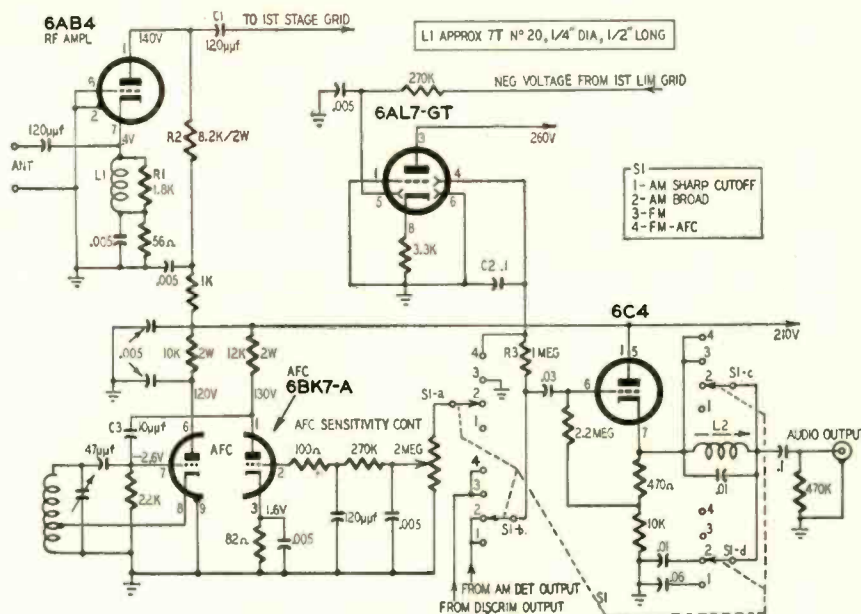

Fig. 1—Various circuitry modifications for improved tuner performance.
**M**ANY tuners in use today could be improved considerably by adding any or all of the following features: a grounded-grid rf stage for FM to increase sensitivity, afc to reduce the distortion and noise due to FM drift and mistuning, a double tuning eye for both AM and FM, a cathode-follower audio stage with a variable-cutoff whistle filter for AM (Fig. 1).